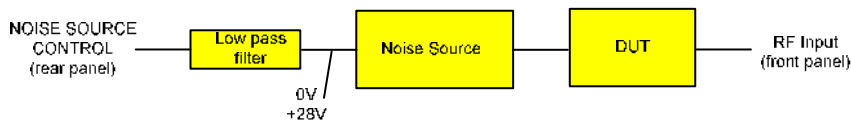

Fig. 2–74: Test setup for the main measurement
1. Insert the DUT (in this example, the amplifier) into the test setup between the noise source and RF input of the R&S FSL (see Fig. 2–74).